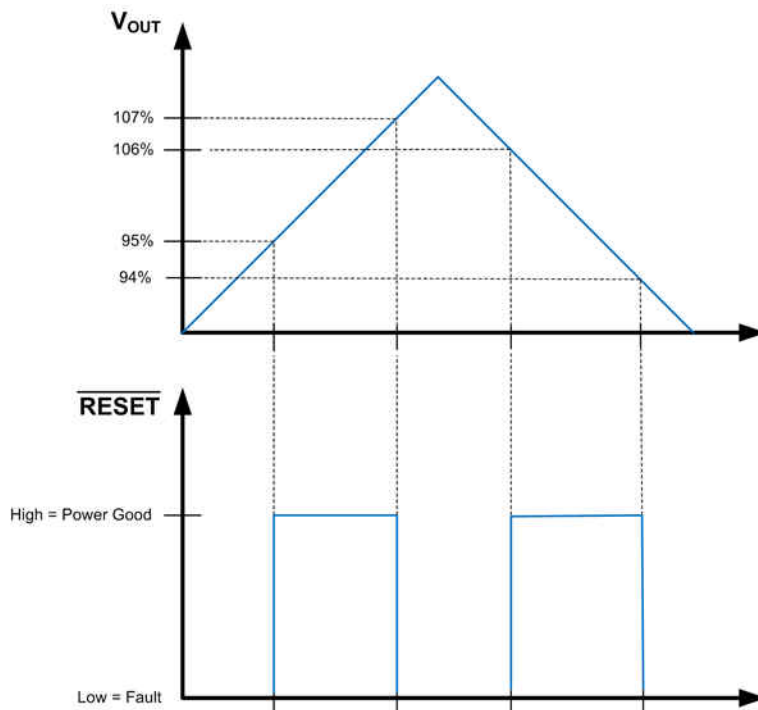
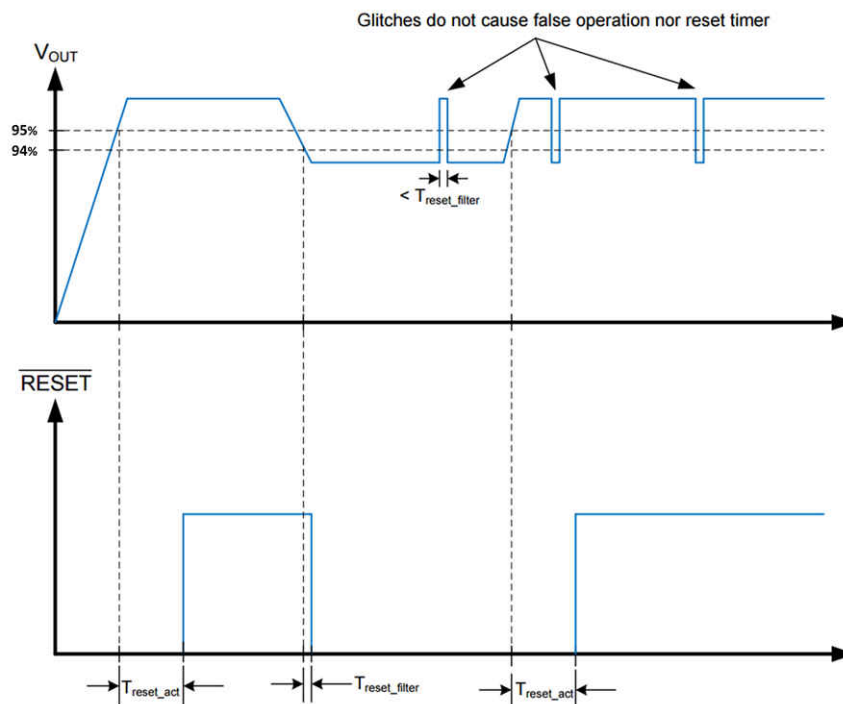
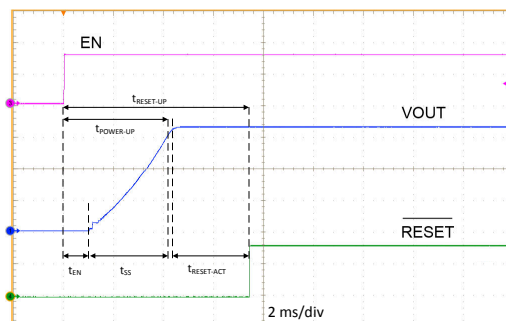

图 8-2. Static RESET Operation
图 8-3. RESET Timing Behavior
图 8-4. Typical Start-Up Waveform
- A delay has been added between the point at which the output voltage is within specified limits and the flag asserts Power Good. A glitch filter prevents false flag operation for short excursions in the output voltage, such as during line and load transients. See Figure 8-3 and Figure 8-4 for more detail.
Because the $\overline{\text{RESET}}$ comparator and the regulation loop share the same reference, the thresholds track with the output voltage. When EN is pulled low, the $\overline{\text{RESET}}$ flag output is forced low. When the device is disabled, $\overline{\text{RESET}}$ remains valid as long as the input voltage is ≥ 1.5 V. $\overline{\text{RESET}}$ operation can best be understood by reference to Figure 8-2 and Figure 8-3. Output voltage excursions lasting less than $T_{\text{RESET-filter}}$ do not trip $\overline{\text{RESET}}$. Once the output voltage is within the prescribed limits, a delay of $T_{\text{RESET-act}}$ is imposed before $\overline{\text{RESET}}$ goes high. This enables tighter tolerance than is possible with an external supervisor device while also expanding the system allowance for transient response without the need for extremely accurate internal circuitry.
A typical start-up waveform is shown in 图 8-4 along with timing definitions. This waveform indicates the sequence and timing between the enable input, output voltage, and RESET. From the figure, the user can define several different start-up times depending on what is relevant to the application. 表 8-1 lists the timing definitions and typical values.